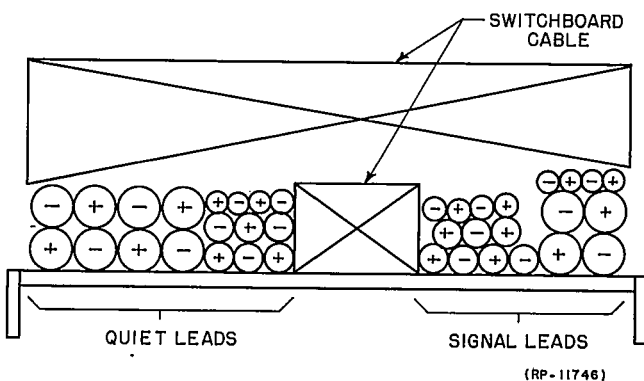
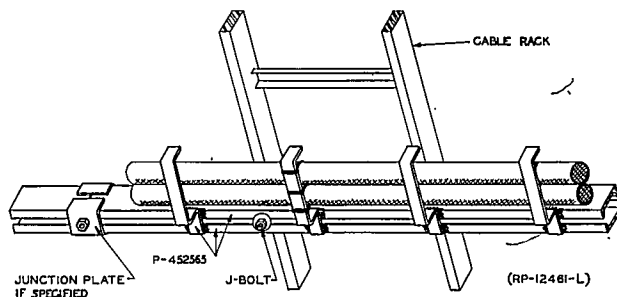

FIG. 1 QUIET LEADS, SIGNAL LEADS AND SWITCHBOARD CABLE ON CABLE RACK, TYPICAL SECTION (PARS. 8.14, 8.15, 10.051)
FIG. 8 POWER WIRE SUPPORTED BY P-452565
8.14 When arranging paired quiet conductors, the polarity should alternate with adjacent conductors throughout the layer. The polarity of these conductors should also alternate, as nearly as possible, with conductors of subsequent layers. See Figure 1.
8.15 Signal conductors need not be alternated in polarity with subsequent layers. See Figure 1.
10.051 On new installations it will generally be desirable to run power leads either on a separate rack (see Figure 8), or below or on either side of the switchboard cable as shown on Figure 1. On additions to existing installations, however, it is satisfactory to run the additional power wires directly on the switchboard cable already installed.